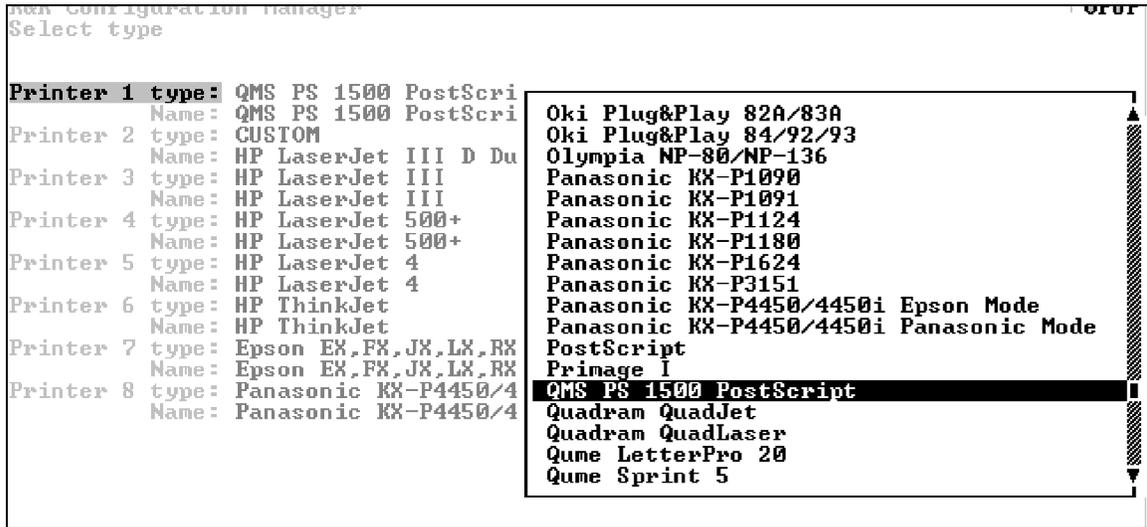

Figure 10-94. Pop-up list of printers.
5. Use the up and down arrow keys to highlight the printer you wish to change and press **<Enter>**. A pop-up list of printers appears on your screen as shown in Figure 10-94.